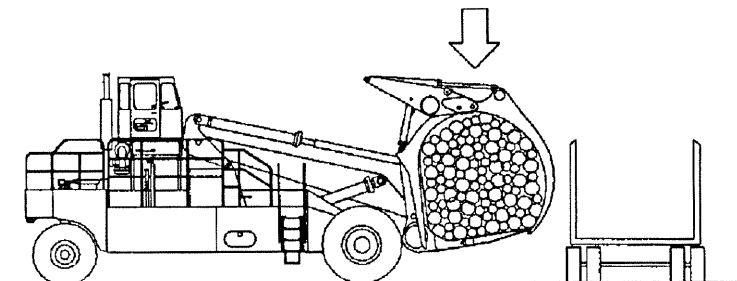

Fig 4-6
6. With the load clear of the vehicle, back away and lower the load to about 3 feet (1 meter) above the ground or just high enough to clear any obstructions on your way to the point of unloading. See Fig. 4-6.